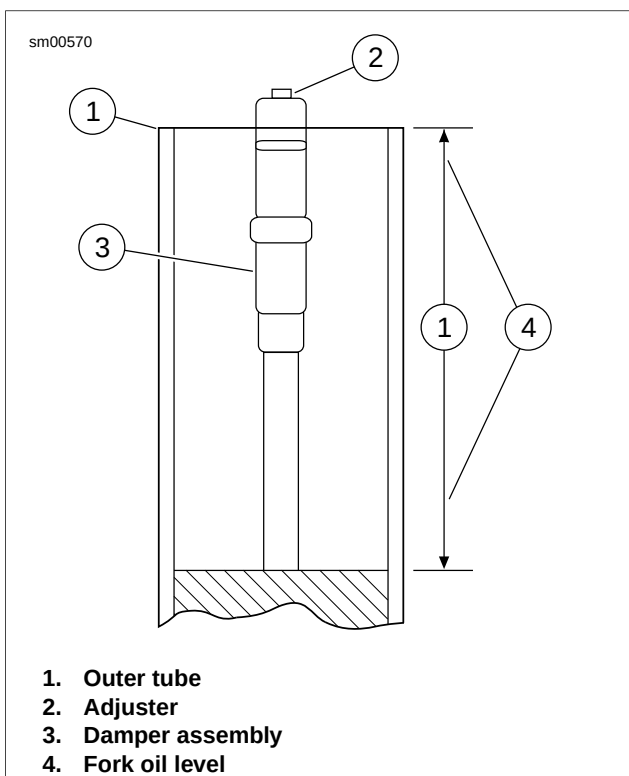

Figure 2-97. Measuring Fork Oil Level
16. See Figure 2-97. With fork completely collapsed, adjust fork oil level with FRONT FORK OIL LEVEL GAUGE (Part No. B-59000A) to the specified level below the top of the outer tube. Refer to Table 2-21.